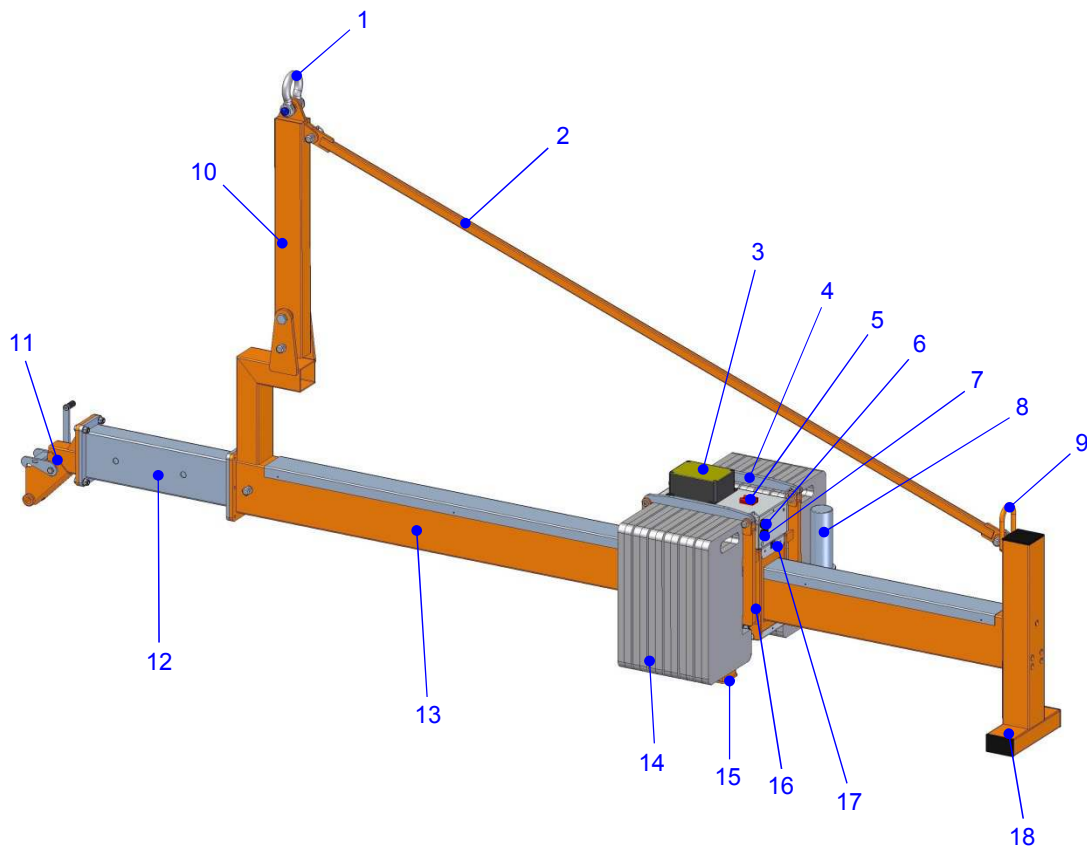

Fig. 1: Counterweight balancer GGA-EF 1000 24 1,5 4,3 B24
The functional main assemblies of the counterweight balancer are (see fig. 1):
Use the transport eye (see fig. 1, pos. 9) for transport purposes of the counterweight balancer only.
- Remove the suspension (see fig. 1, pos. 2).
The charge indicator is arranged on the counterweight balancer according to figure 1.